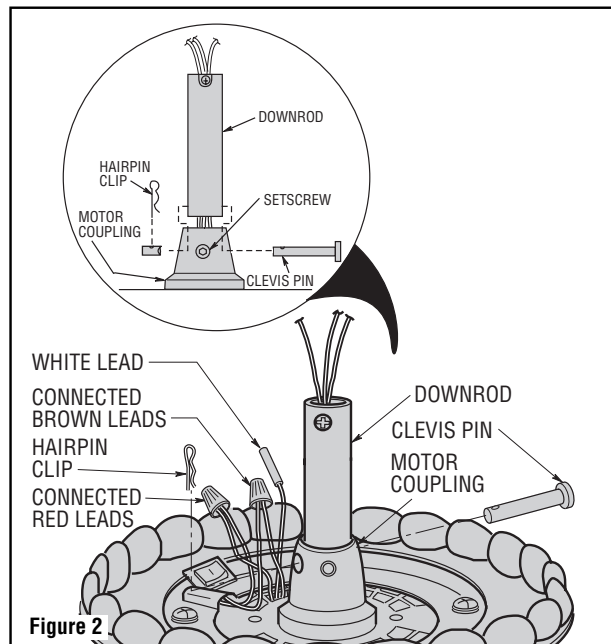

Figure 2
3. Separate, untwist and unkink the three motor leads. Route the motor leads through the downrod and seat the downrod in the motor coupling (Figure 2).